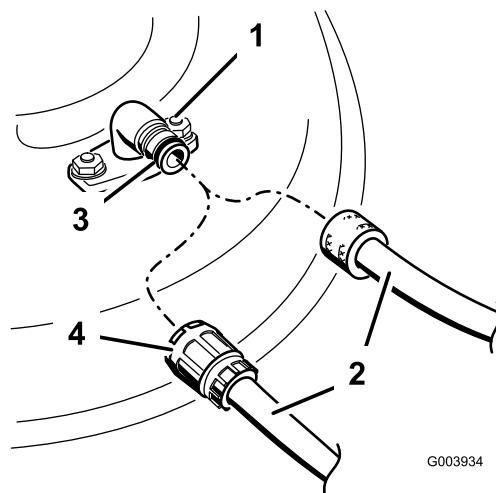

Figure 47
3. Attach the hose coupling to the end of the mower washout fitting, and turn the water on high (Figure 47).